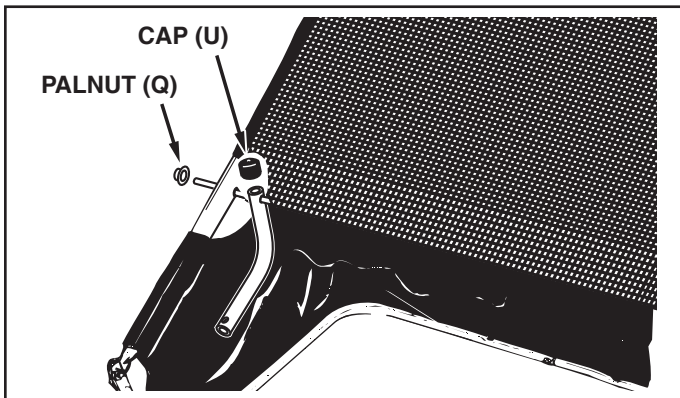

FIGURE 19
STEP 22: (SEE FIGURE 19)
- Assemble a vinyl cap (U) onto each bag arm tube.
- Assemble two palnuts (Q) onto the ends of the pivot rod using a hammer.
- To adjust your sweeper brushes to the best operating height, loosen the adjustment knob and push down on the height adjustment handle to raise the brush, or push up on the handle to lower the brush. See figure 19. Best adjustment is when the brush setting is 1/2" down into the grass. Always mow the grass to an even height before sweeping.